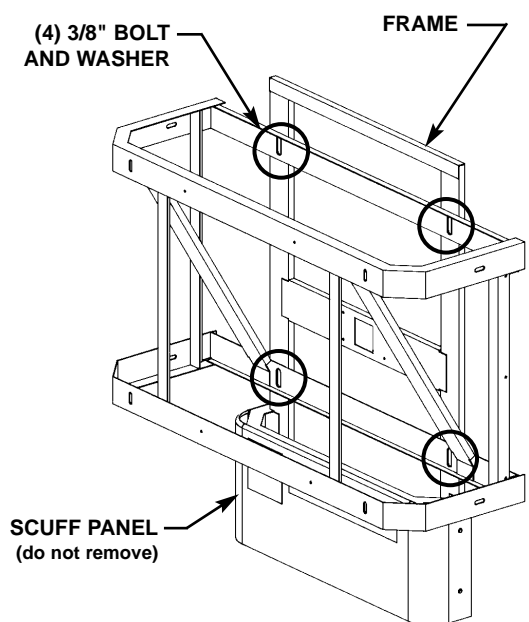

Figure 4
4. Once you have positioned the frame such that it is level and resting on the floor and flat against the wall or shimmed, use the 3/8" bolts and washers to mount the frame to the wall (see Figure 4).